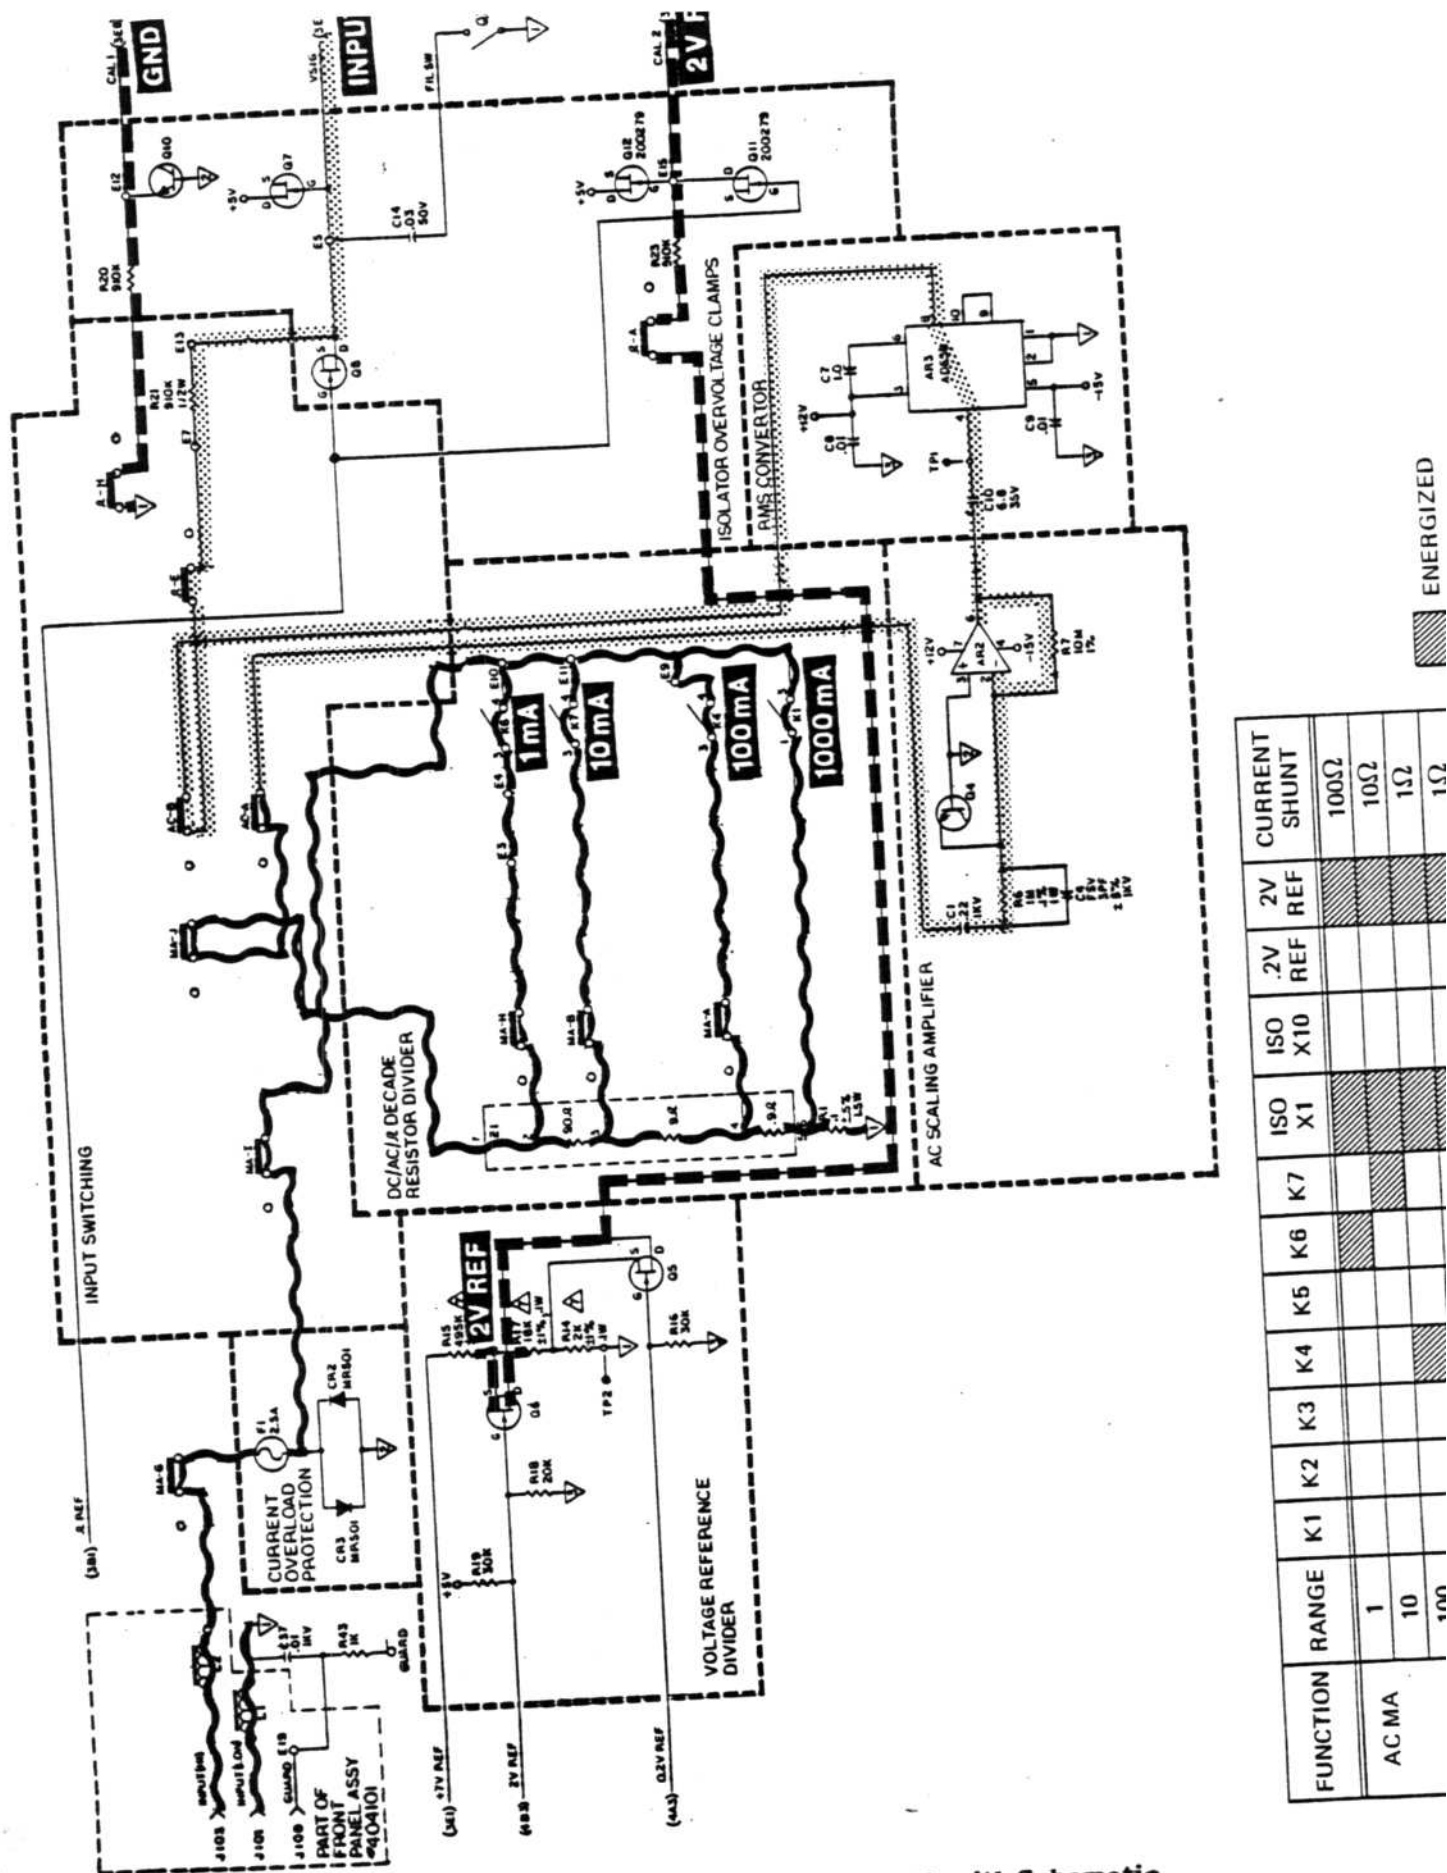
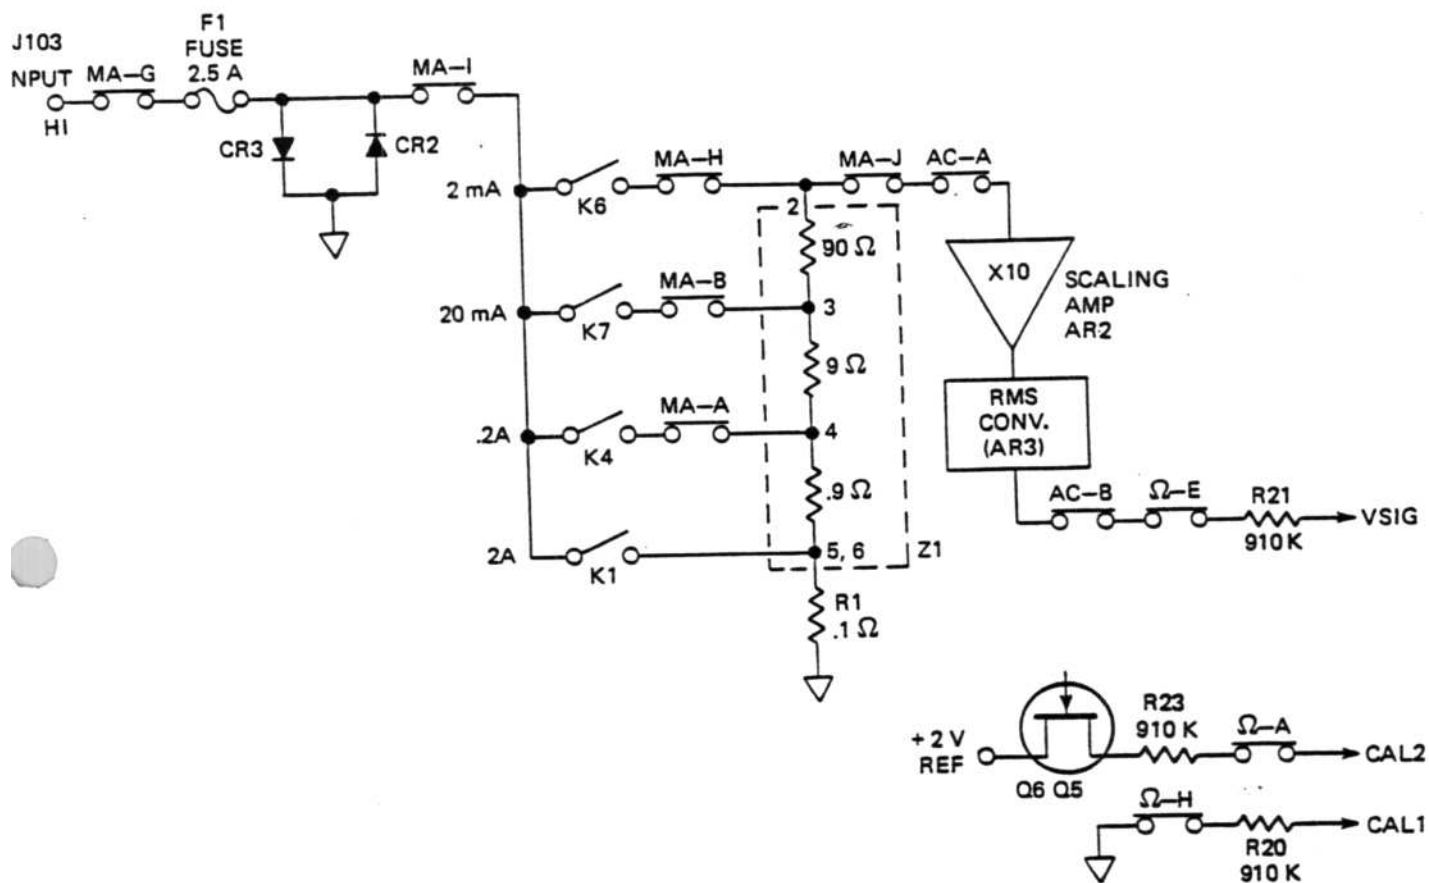

Figure 4.10 - 5001 AC-mA Input Path with Schematic
Figure 4.11 - 5001 AC-mA Front-End Diagram
4.4.5.2 Refer to Figure 4.10 which shows a simplified AC-mA input signal path with schematic and Figure 4.11 which provides an AC-mA front-end diagram. When the AC-mA function is selected, the input measurement signal applied to the HI and LO INPUT terminals is routed through the same signal paths as those used in DC-mA measurement, up to switch AC-A. At this point, the AC-mA signal is routed to the AC scaling amplifier AR2. The AC scaling amplifier AR2 applies a X10 gain ($R6 = 1M\Omega$, $R7 = 10M\Omega$) before routing the scaled AC signal to the RMS converter. The AC converter generates a full-scale output of +1 VDC. This output is applied to the isolator as VSIG through switches AC-B and Ω -E. (Refer to paragraphs 4.4.3.2 to 4.4.3.4 for a description of scaling amplifier/RMS converter operation in AC Volts function.)